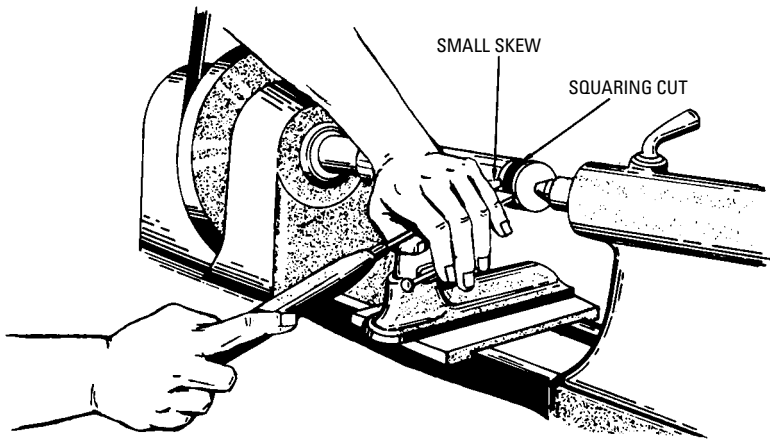

Figure 7-33 A skew chisel is held in this manner to square the ends of the work.
7. After the work has been reduced to a cylinder, the ends may be squared to mark the end of the turning. This is commonly accomplished by placing the $\frac{1}{4}$ - or $\frac{1}{2}$ -inch skew chisel on the tool rest and bringing the cutting edge next to the stock perpendicular to the axis, as shown in Figure 7-33.